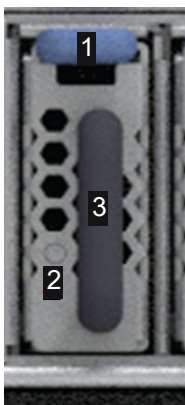

Figure 52. Removing the boot drive
7. Hold the boot drive handle (3) and press down on the release latch (1) towards the handle and pull to remove the boot drive. In Figure 52 on page 94, the faulty LED (2) location on the boot drive is shown.